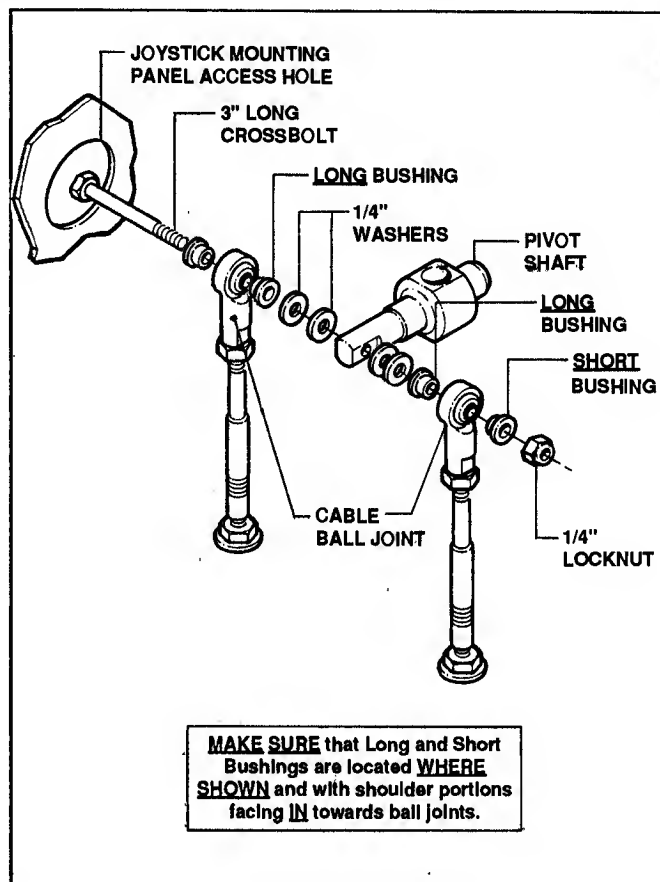

FIGURE 4.8
- Install the desired amount of washers on each side of the pivot shaft to spread the cable ends apart. Use no more than 3 washers per side. Excess washers will bend the cables and cause them to break. The 3" long bolt should be installed with the head on the inside (closest to the seat) to prevent it from hitting the joystick mounting panel. See Figure 4.8.
- D. Make sure the bushings are in the same order as before. Refer to Figure 4.8. There is a difference in the bushings. After all parts are assembled and tight, rotate the joystick, making sure it moves freely without striking anything or pinching wires, etc.